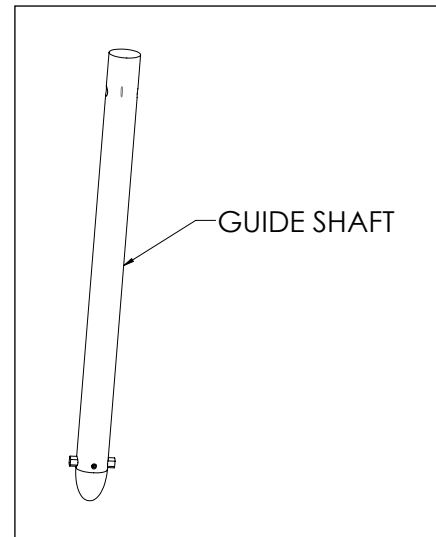

Figure 12. Remove Guide Shaft from Shipping Container
9. Remove the Standard Guide Shaft Gold Series 35" [K-MM0510] or Extended Guide Shaft Gold Series 47" [K-MM0511] from the shipping container. See Figure 12.